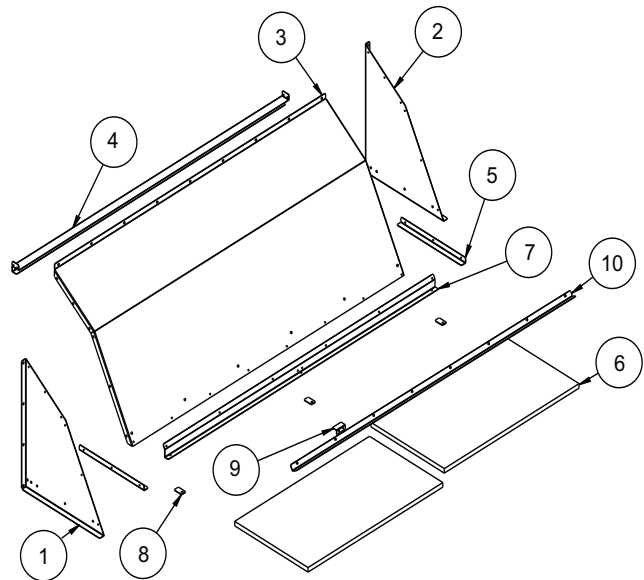

Fig. 25 — Hood Assembly
5. Assemble hoods (see Fig. 25):